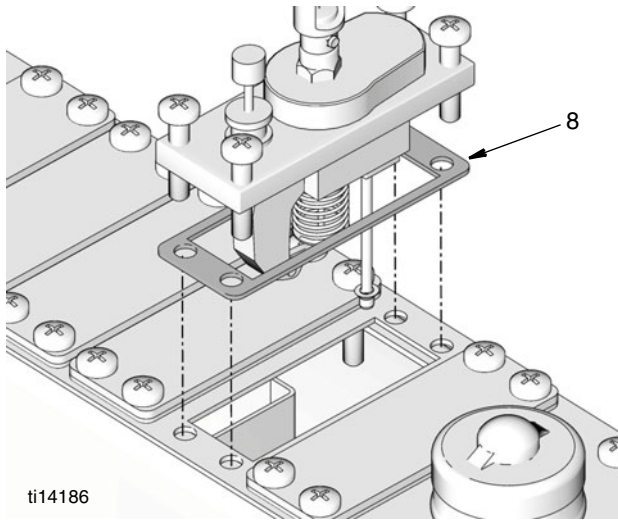

FIG. 4
1. Install new gasket (8) and pump in top of reservoir (FIG. 4).